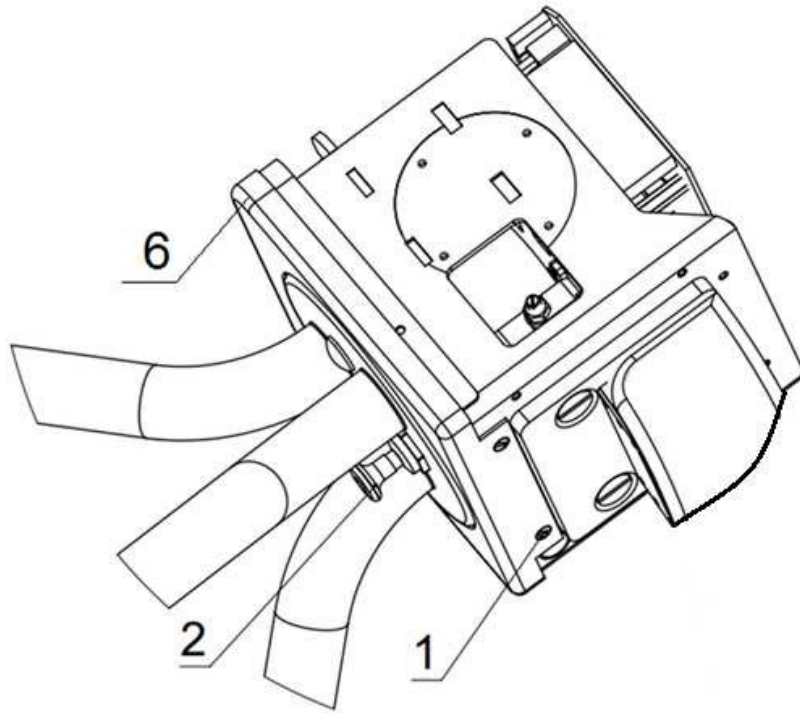

Fig.6
1. Remove lower decorative board having undone two screws 1 (Fig.6)